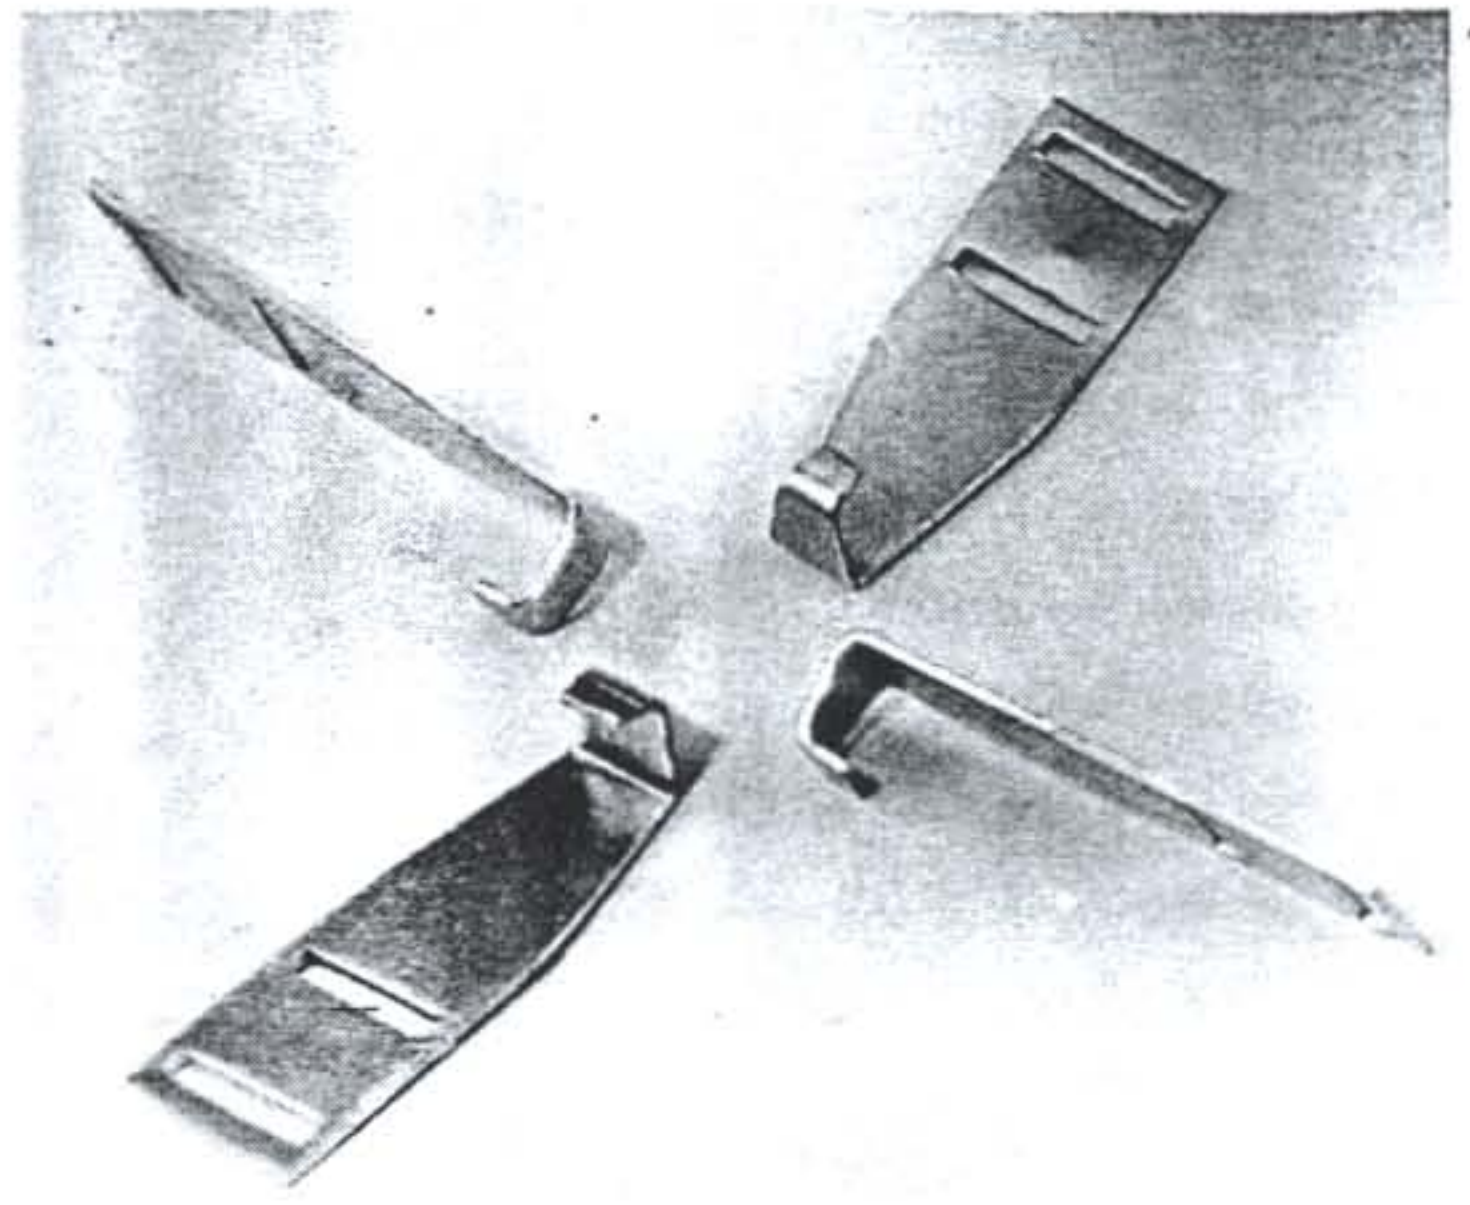

FIGURE 9
11. Roof Blankets, which are interchangeable may be installed now by covering one four foot section at a time, fastening by rope in pocket as on end wall and using slide buckles (FIGURE 9) on web straps at floor level either side of Unit.